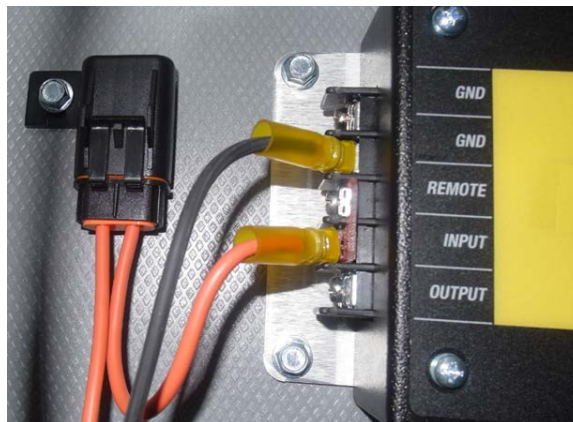

FIGURE 4
7. Before installing the converter on the wall of the electrical compartment, connect the fuse holder wire with the fork terminal to the input connection of the converter (Figure 4).
8. Connect the fork terminal of the black wire with one of the ground (GND) connection of the converter (Figure 4).